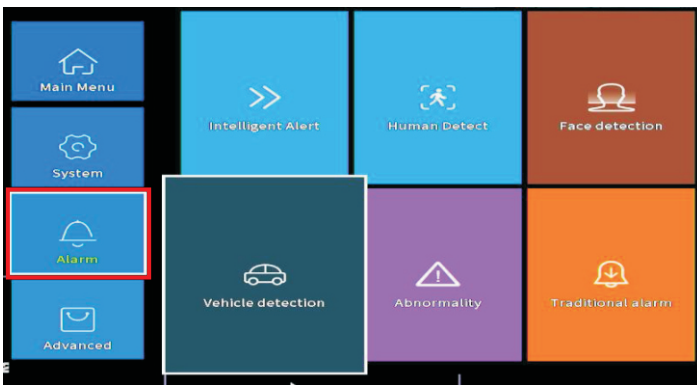

Figure 9. Click Alarm Menu
17. Select on Alarm menu as seen on Figure 9.